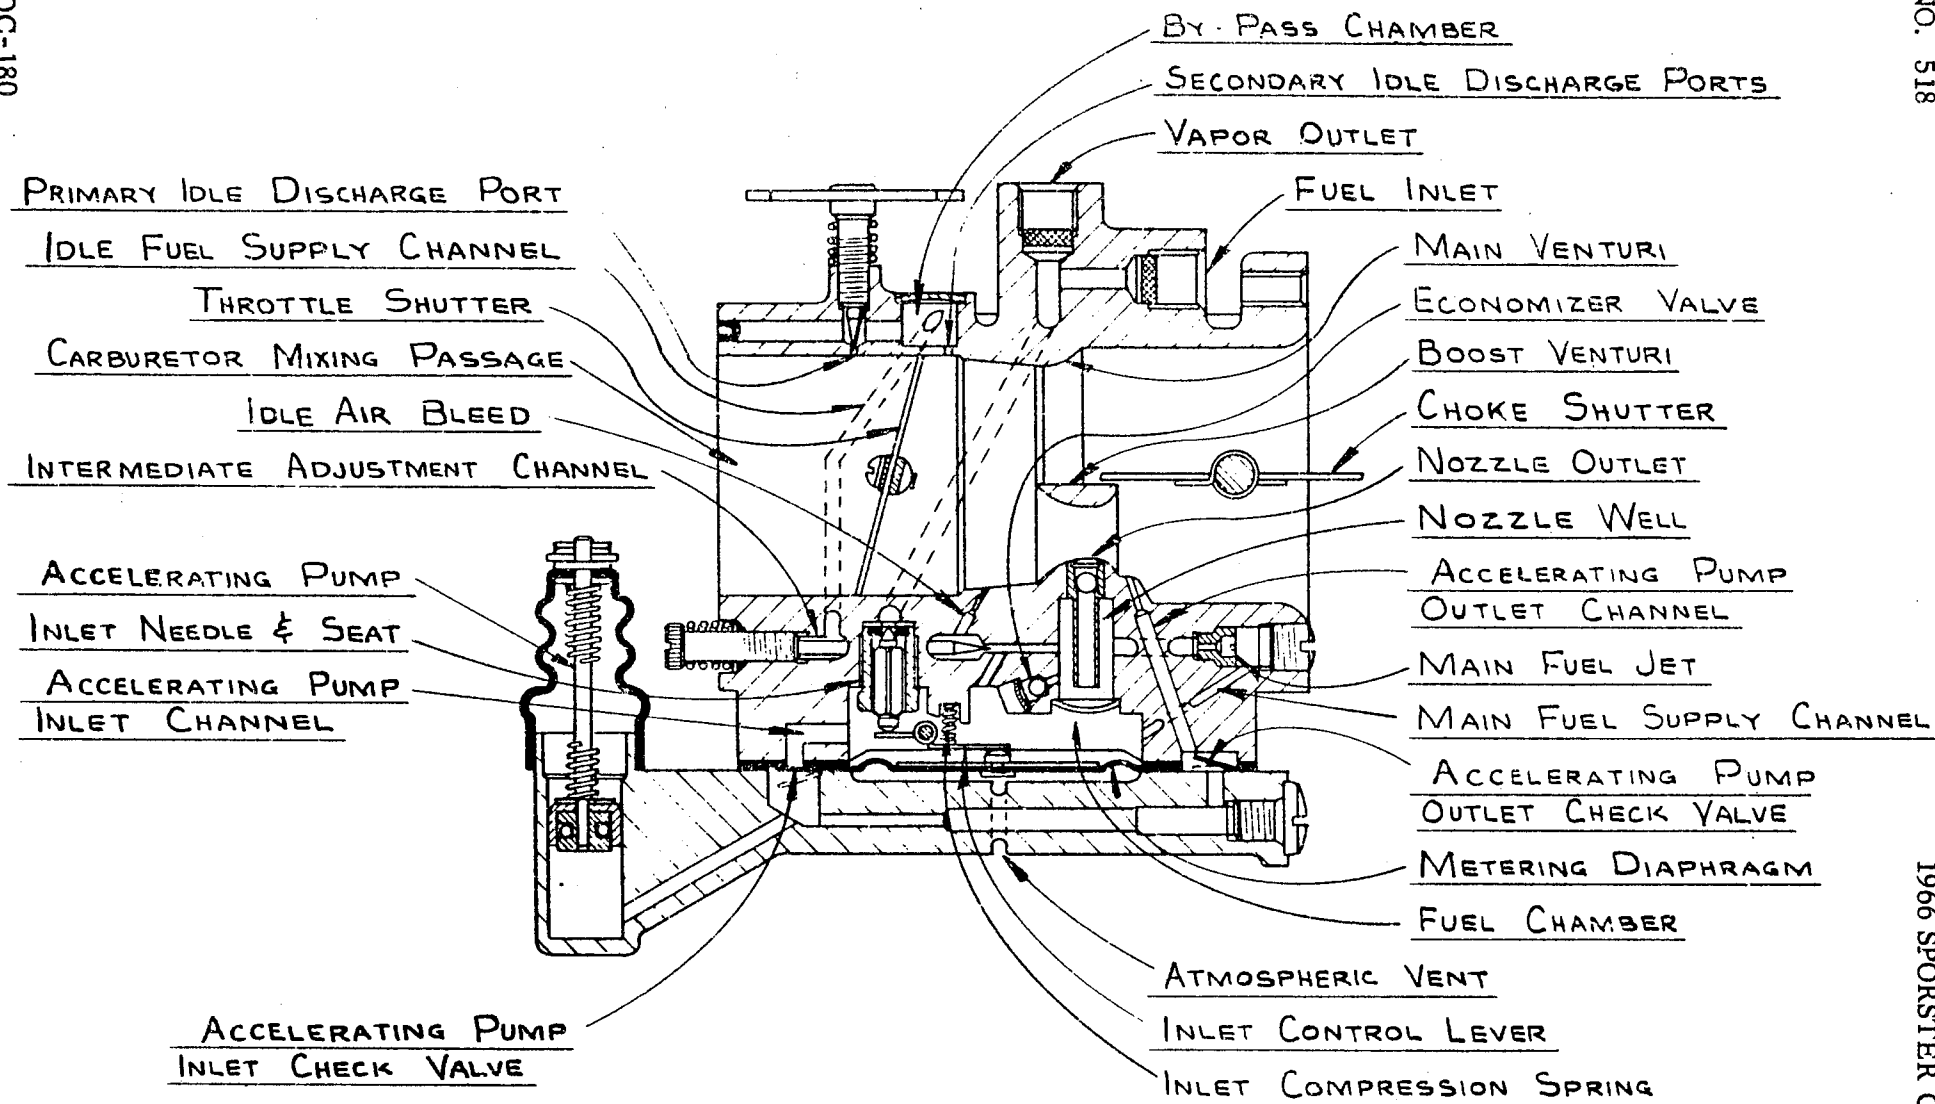

FIGURE 1 CARBURETOR CROSS SECTION-MODEL HD
**1966 SPORTSTER CARBURETOR SERVICE INFORMATION****DESCRIPTION** (See Figure 1)